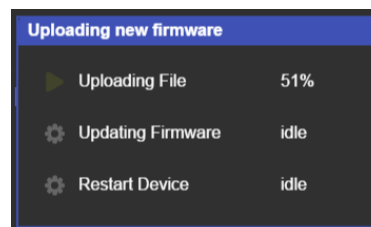

Figure 26: The Firmware Upgrade Process Popup
6. After clicking OK, the progress message shown in Figure 26 appears.